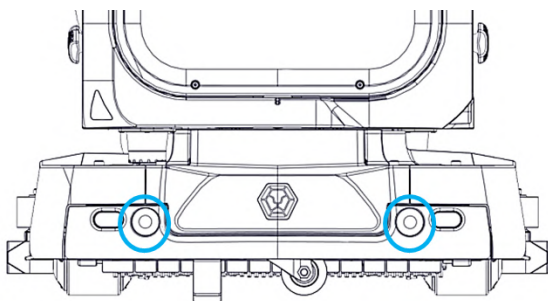
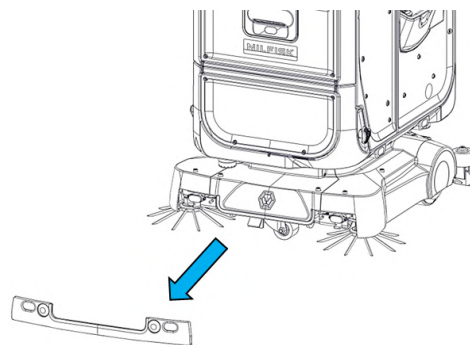

FIGURE 10-20
FIGURE 10-21
1. Press the 2 buttons fully to remove the lower front cover (**Fig. 10-20**) (**Fig. 10-21**).